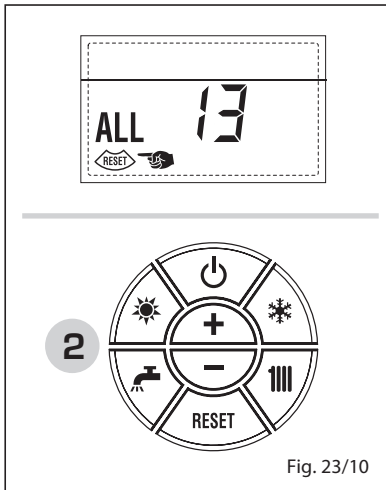

Fig. 23/10
- "ALL 14" EXHAUST FUMES PROBE ERROR (fig. 23/11)